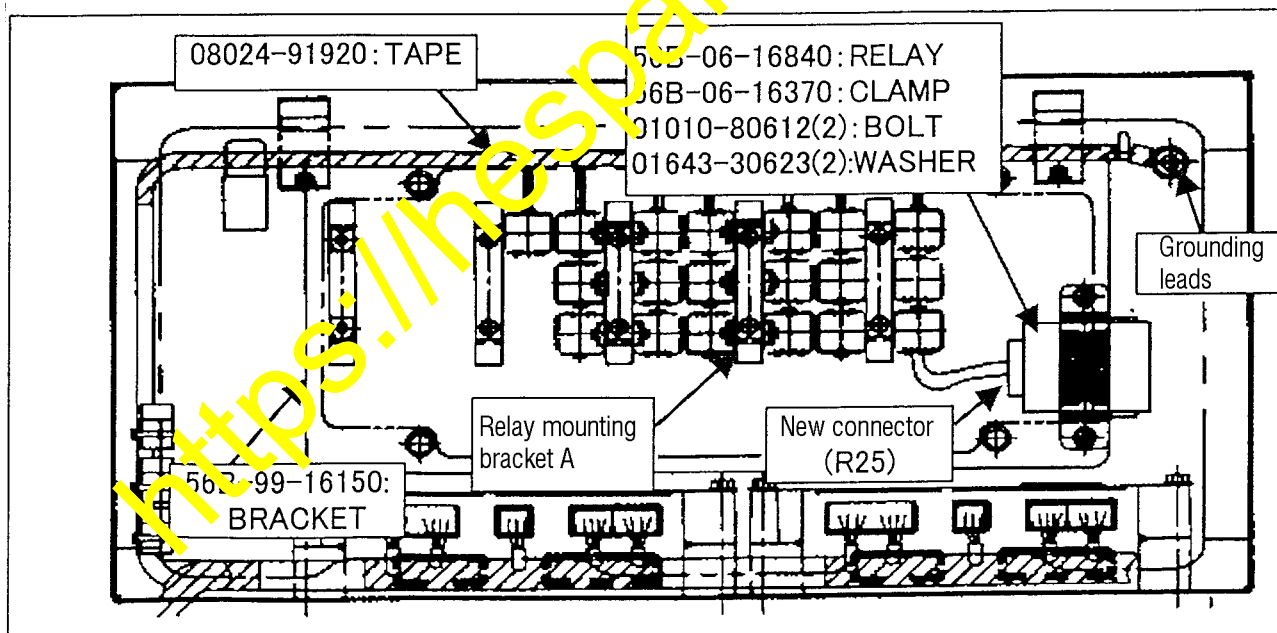
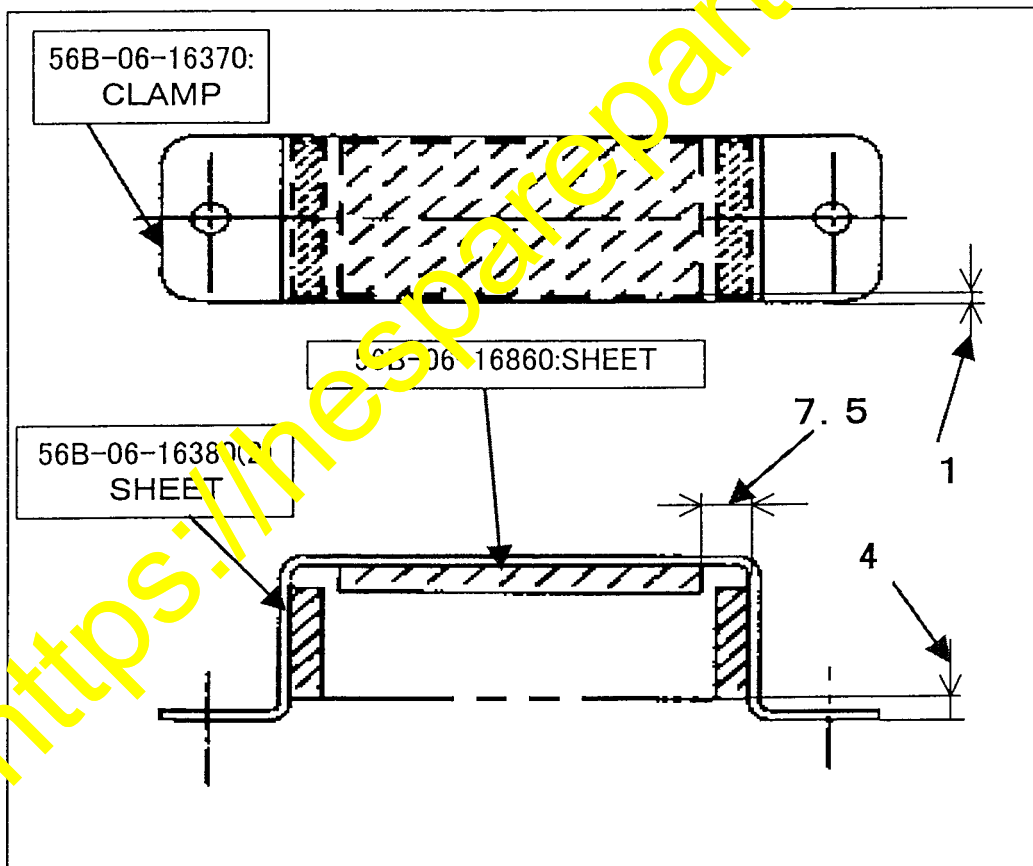

Fig. 29
Fig. 31
- (2) Install the new relay mounting plate (56B-99-16150). Hereafter, refer to Fig. 29.
- (3) Inserting the relay connectors to the relay mounting bracket A, install the relays. (As the mounting parts, reuse the current parts.) (Excluding R25, R26, R27 and R28)
- (4) Paste the cushion sheets (56B-06-16380 (2) and 56B-06-16860) to the mounting clamp (56B-06-16370) for the improved relay (56B-06-16840). (Refer to Fig. 31.)
- (5) Fasten the improved relay (56B-06-16840) using the clamp (56B-06-16370) described in the above Section (4) and using the bolts (01010-80612(2)) and washers (01643-30623(2)).
- (6) Connect the connector (New R25) which has been prepared as per Section 4-3C. (3) and the improved relay (56B-06-16840).
- (7) Install the grounding leads.